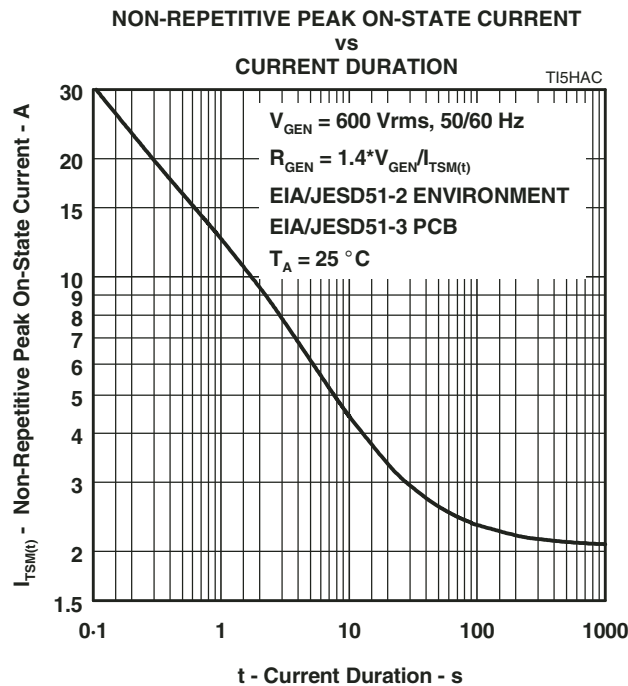

Figure 8.
5. EIA/JESD51-2 environment and EIA/JESD51-3 PCB with standard footprint dimensions connected with 5 A rated printed wiring track widths. Derate current values at  $-0.61\text{ }^{\circ}\text{C}$  for ambient temperatures above  $25\text{ }^{\circ}\text{C}$ . See Figure 8 for current ratings at other durations.
The protector can withstand currents applied for times not exceeding those shown in Figure 8. Currents that exceed these times must be terminated or reduced to avoid protector failure. Fuses, PTC (Positive Temperature Coefficient) resistors and fusible resistors are overcurrent protection devices which can be used to reduce the current flow. Protective fuses may range from a few hundred milliamperes to one ampere. In some cases it may be necessary to add some extra series resistance to prevent the fuse opening during impulse testing. The current versus time characteristic of the overcurrent protector must be below the line shown in Figure 8. In some cases there may be a further time limit imposed by the test standard (e.g. UL 1459 wiring simulator failure).